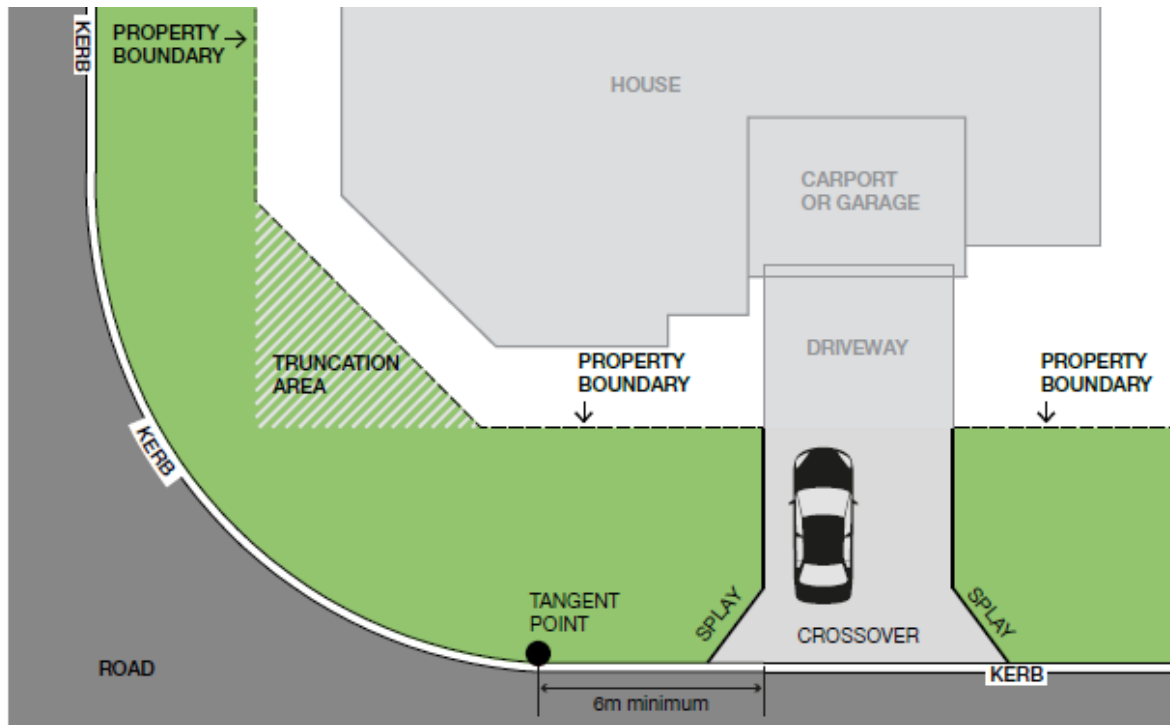

Figure 1: Permitted area of crossover
- No closer than 6.0m to a street corner or the point at which the kerb line begins to curve as seen in Figure 1.
- Crossovers and splays are not permitted within the truncation hatched area shown in Figure 1.